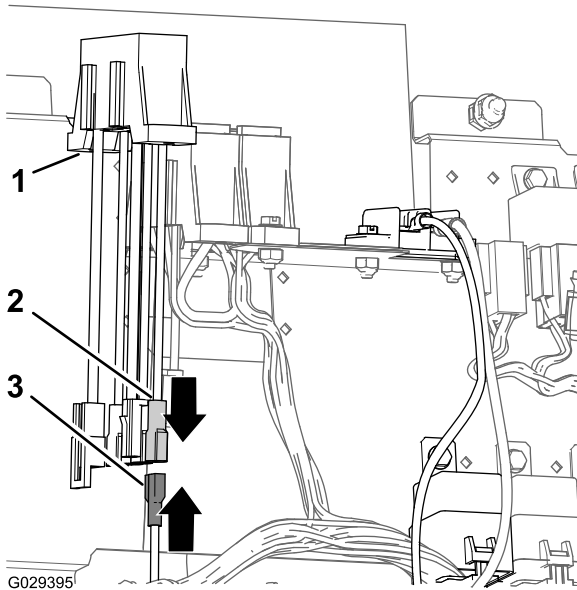

Figure 21
1. Connect the blade connector of the wiring harness for the finishing kit to the socket connector of the auxiliary-fuse block (Figure 21).